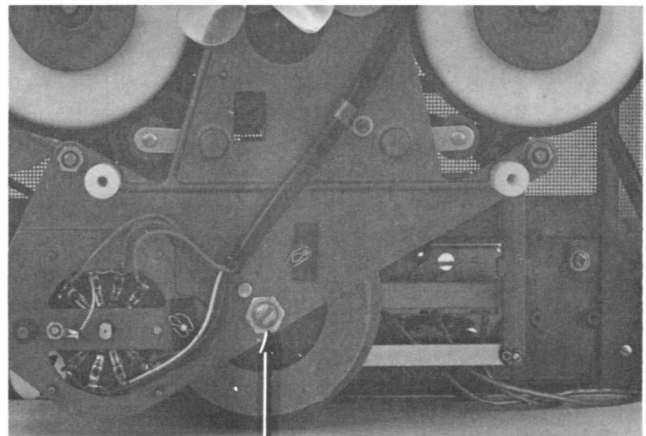

Fig. 4-8. Adjusting Capstan Thrust
Step 1: Coat the nylon thrust disc liberally with wheel bearing grease (sub zero) and insert it in the threaded hole in the subplate over the capstan shaft (see Fig. 4-8).